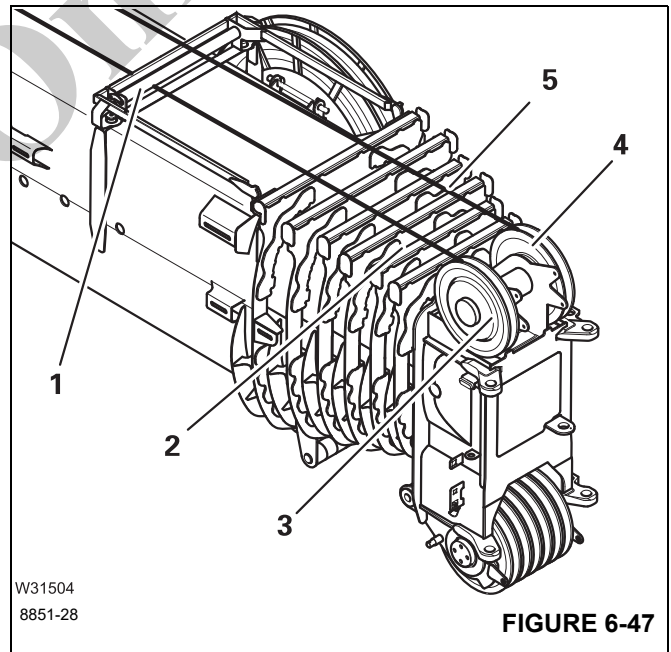

FIGURE 6-47
- Feed the main hoist rope (2), (Figure 6-47) under the rope grab (1).
If two hoist ropes are reeved, you must feed the auxiliary hoist rope (5), (Figure 6-47) over the rope grab.
- Feed the main hoist rope to the head sheave (3).
- Feed the auxiliary hoist rope to the head sheave (4).